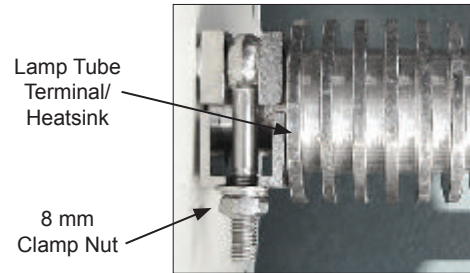

Figure 5-4 MHG Lamp Terminal Clamp
5) Using an 8 mm socket wrench, loosen the clamp nuts (Figure 5-4) on the lamp terminals so that the holder clamp can be opened and the lamp, along with the terminals/heatsinks, can be removed from the lamp housing.